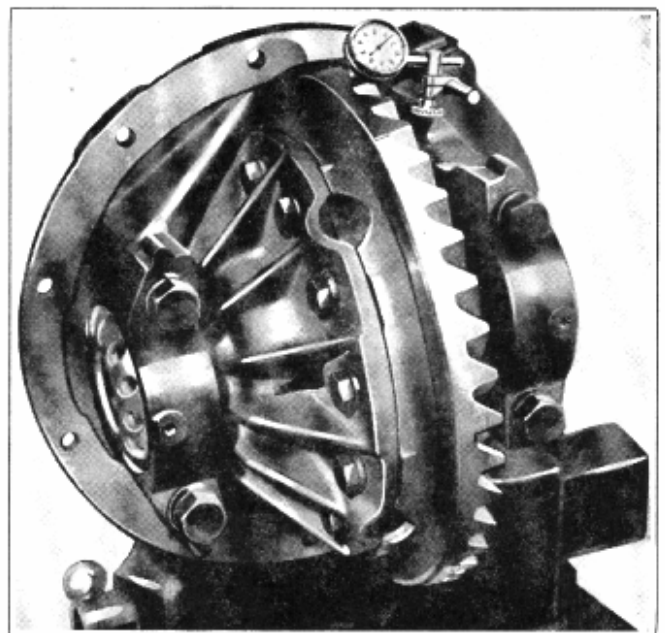

Fig. 16—Checking Ring Gear and Pinion Backlash
5. Check ring gear and pinion back lash, Fig. 16. This should be from .005"—.008". If it is more than this, loosen the right-hand adjusting nut one notch and tighten left-hand nut one notch. If less than .005"—.008", loosen the left-hand nut one notch and tighten the right-hand nut one notch. Tighten down the cap screws and recheck the ring gear and pinion back lash. Assemble and tighten the adjusting nut locks.